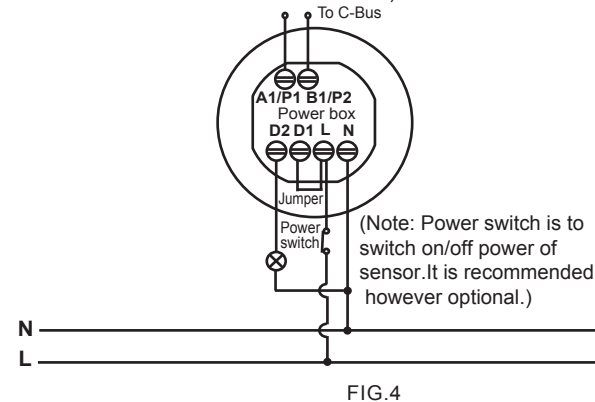
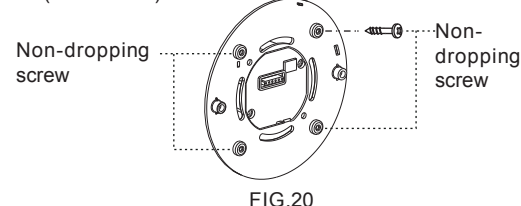

FIG.4
FIG.20
- The operation of C-Bus signal control (See FIG.4, Ensure slide switch is set accordingly, refer to section 4.2.1.2 and FIG.20 & FIG.21).
3.3.4.4 Insert the four non-dropping screws to the corresponding screw holes on sensor's fixing plate. Afterwards, those four screws will not drop off to provide convenient subsequent installations (See FIG.20).